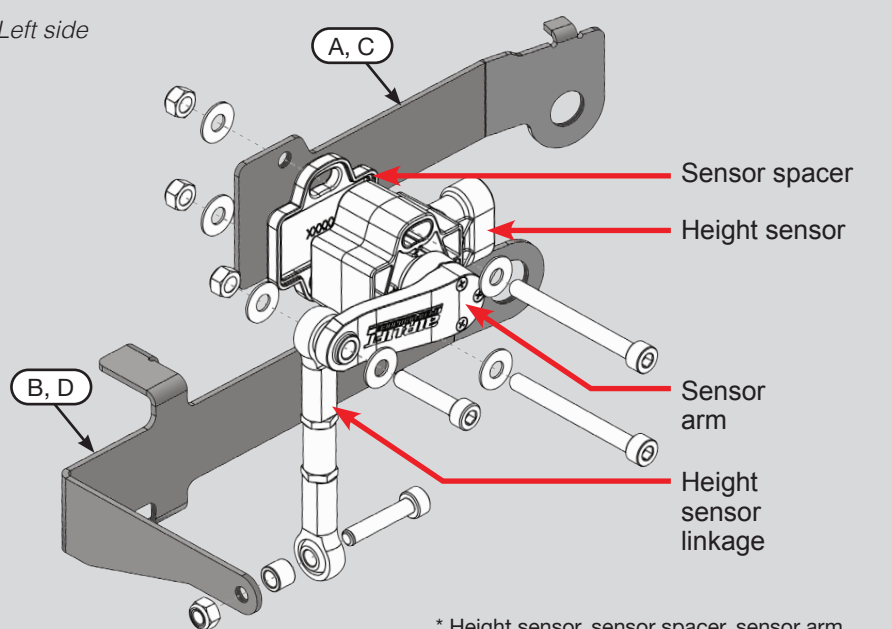

fig. 6
- Attach the linkage to the first hole of the height sensor arm (Fig. 8). Attach the height sensor to the upper bracket, using hardware from the 3H kit (Fig. 6).
- Attach the height sensor to the upper bracket and the linkage to the lower bracket with the linkage spacer. Torque the bracket and linkage to 2.5Nm (22 lb.-in.) (Fig. 6).